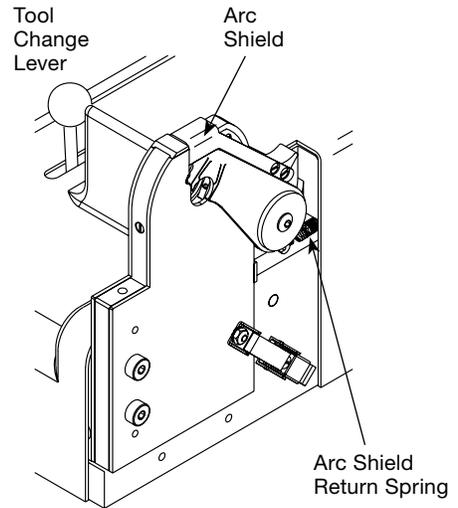

Figure 30 Removing the Arc Shield Return Spring from the Movable Plate Assembly
1. Unhook the arc shield return spring that is holding the arc shield assembly in place. See Figure 30.